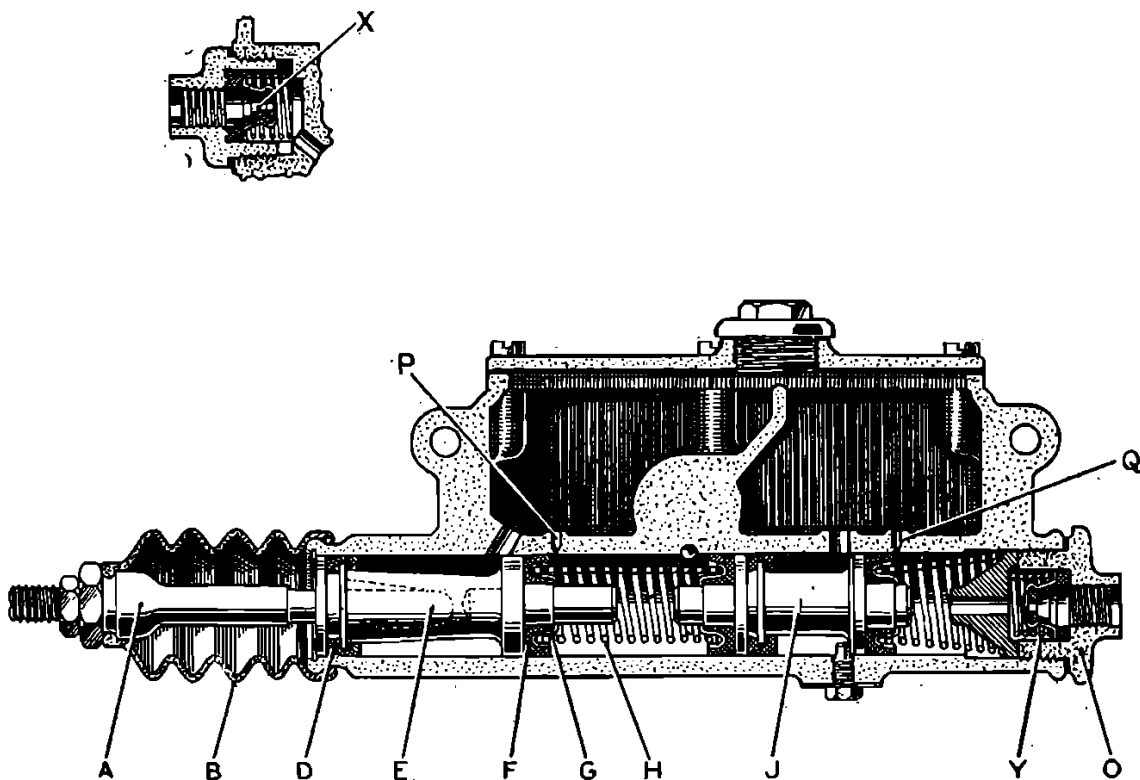

Figure 69. Master Cylinder
The master cylinder (Fig. 69) is mounted to the right of the steering column, on a rigid bracket which also includes the fixing for the foot pedal to which the push rod (A) of the cylinder is connected.